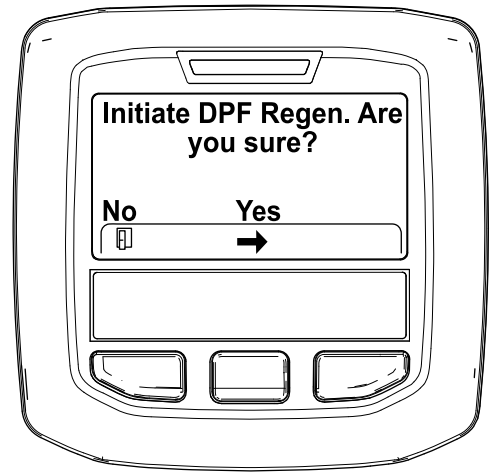

Figure 6
4. When the “Initiate DPF Regen. Are you sure?” message displays, press the center button (Figure 6).